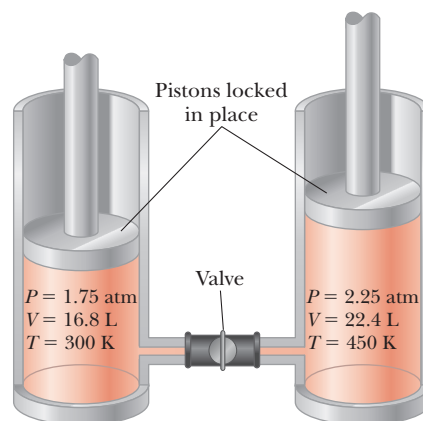

Figure P20.15
15. Two thermally insulated vessels are connected by a narrow tube fitted with a valve that is initially closed as shown in Figure P20.15. One vessel of volume  $16.8\text{ L}$  contains oxygen at a temperature of  $300\text{ K}$  and a pressure of  $1.75\text{ atm}$ . The other vessel of volume  $22.4\text{ L}$  contains oxygen at a temperature of  $450\text{ K}$  and a pressure of  $2.25\text{ atm}$ . When the valve is opened, the gases in the two vessels mix and the temperature and pressure become uniform throughout. (a) What is the final temperature? (b) What is the final pressure?